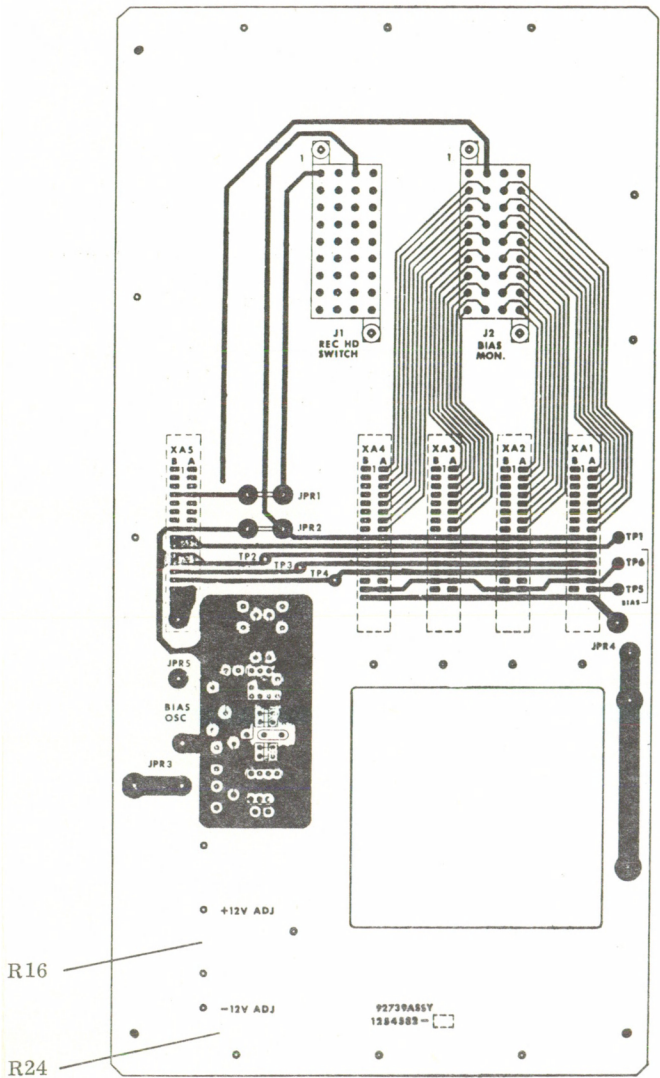

Figure 8-4. Headdriver Housing - Rear View - Showing Power Supply Adjustment
- f. Turn on system power. Voltmeter should read -12.0(±0.2)V dc. Adjust R24 (-12V ADJ) if necessary. R24 (-12V ADJ) is located on the rear lower left side of the headdriver housing, (see Figure 8-4).
- h. Turn on system power. Voltmeter should read +12.0(±0.2)V dc. Adjust the +12V ADJ (R16) if necessary. +12V ADJ is located at the rear lower left side of the headdriver housing (see Figure 8-4).